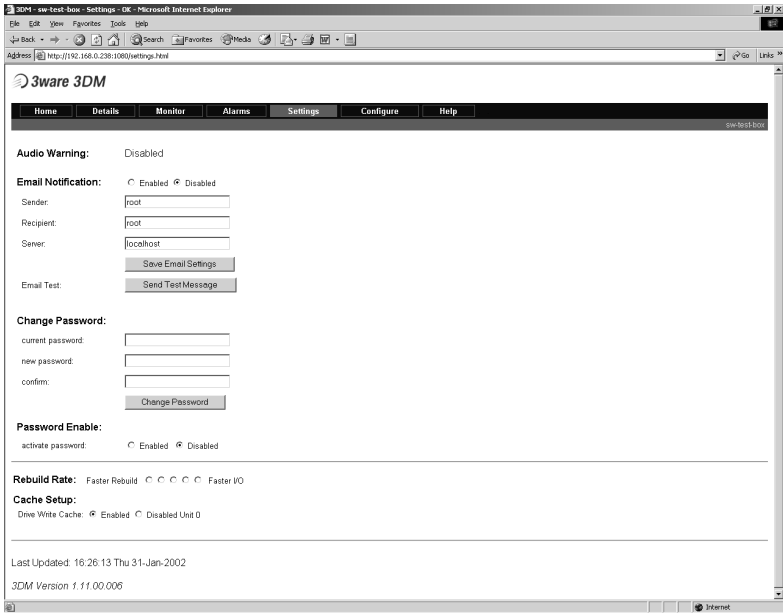
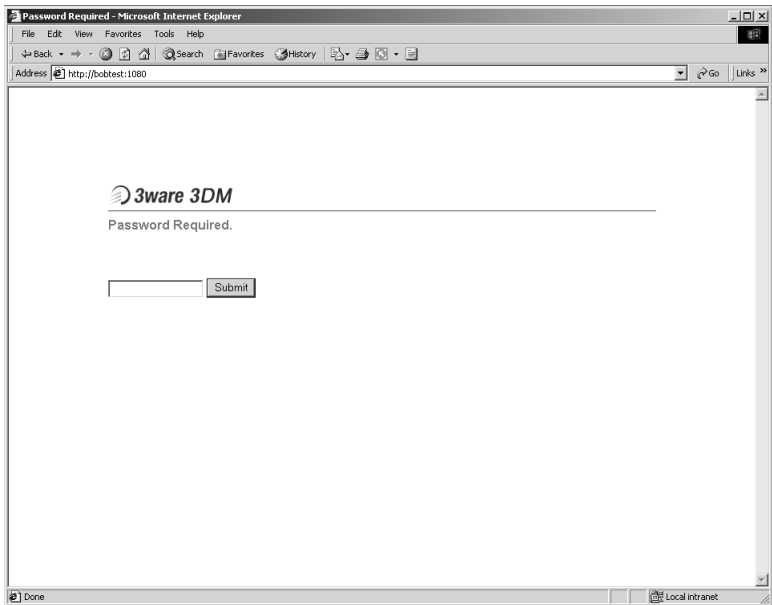

Figure 54. 3DM Settings Display
Figure 55. 3DM Login Display
The **Settings** display (see Figure 54) allows you to configure 3DM's email notification, password, rebuild rate and cache settings.
With password protection, using 3DM will require entering the password into the login display shown in Figure 55. Passwords are case sensitive. The password setup procedure is as follows:
- 1 Enter the current password in the **current password** box of the 3DM Settings display (see Figure 54).
With the 3DM password utility enabled, using 3DM will require entering the password into the login display shown in Figure 55. To enable password protection, be sure to perform the setup procedure on page 131, then select the **Enabled** option in the **Password Setup** portion of the 3DM **Settings** display (see Figure 54). To disable the utility at any time, simply return to the **Settings** window and select the **Disabled** option.
The **3DM Settings** display allows you to choose between a faster I/O rate or a faster Rebuild rate. Once the rate is selected, this function is only active during Rebuilds. Click on the desired rate in the **Rebuild Rate** portion of the **Settings** display (see Figure 54).